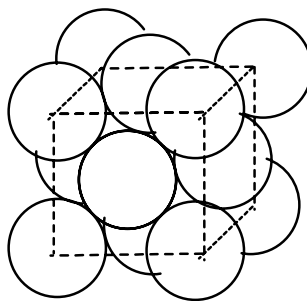

Figure 1.2
13. Shade the balls in the same layer and label it with layer A, B or C for Figure 1.2